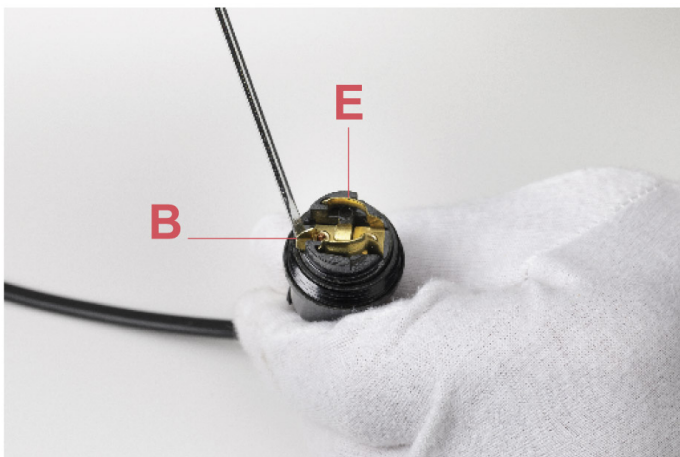

Fig.9
Lift-up the brass central contact (B) on the fitting (E). (Fig.9)